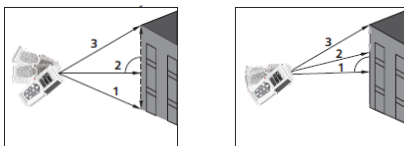

Fig. 8: Examples of indirect 3-point measurements
3. Position the instrument in the lowest point (1) of measurement (see Fig. 8) and press the  key. The result appears on the first partial display. The symbol "" appears on the display with side "2" flashing
horizontally as possible (2) (see Fig. 8) and press the  key to measure. The result appears on the second partial display. The symbol “” appears on the display with side “3” flashing
5. Position the instrument in the highest point (3) of measurement (see Fig. 8) and press the  key to measure